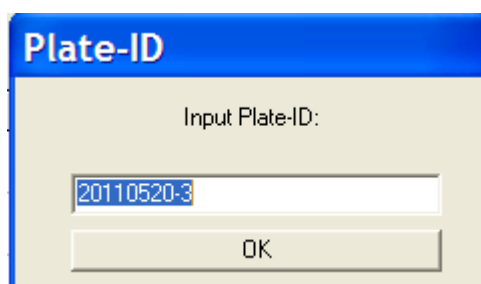

Figure 6-14: Plate-ID
2. Choose **Start** to begin reading the plate. When the measurement is complete, Plate-ID appears (Figure 6-14).